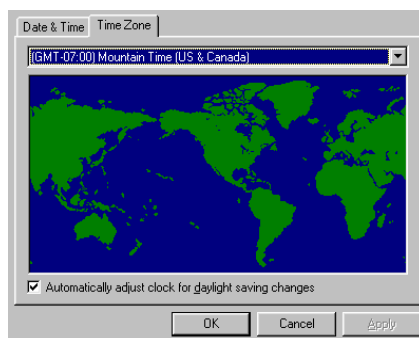

Figure 2-30 Date/Time Properties Dialog Box (Time Zone Tab)
- Click the *Time Zone* tab. The *Date/Time Properties* dialog box displays with the *Time Zone* page open (Figure 2-30).